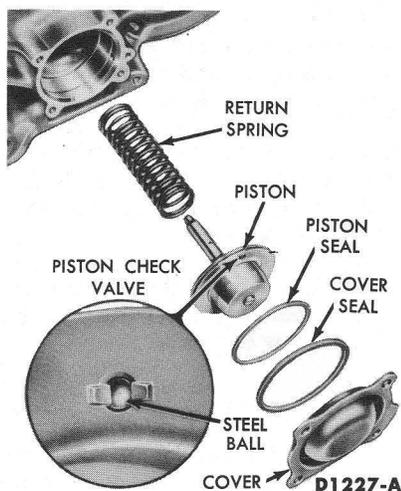

FIG. 22—Low Servo Assembly
1. Remove 2 low servo cover retaining bolts which are nearest to 180° apart (Fig. 22). Install two 1-inch long bolts ($\frac{5}{16}$ -18), or any two front pump attaching bolts, into the bolt holes. Run the bolts in until they bottom.
6. Place the piston return spring, piston, and cover in position in the case. The low servo piston ball check valve (Fig. 22) must be at the top, when the transmission is in normal running position. Start the two 1-inch long bolts in bolt holes 180° apart.